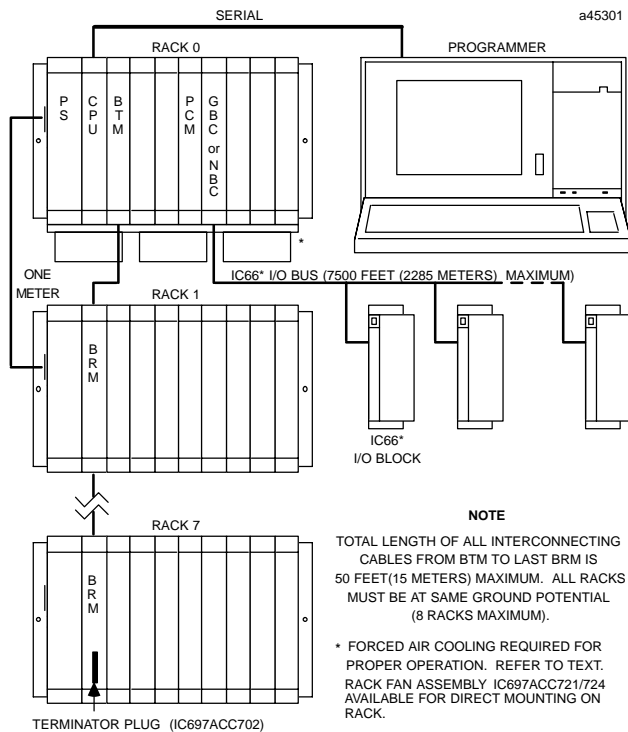

Figure 2. System Configuration, Serial Connection to Programmer
- Install the CSE 925 module in slot 1 of rack 0 (see Figure 2).
The 15-pin D-connector provides the connection to an RS-485 compatible serial port on the CPU as shown in Figure 2.